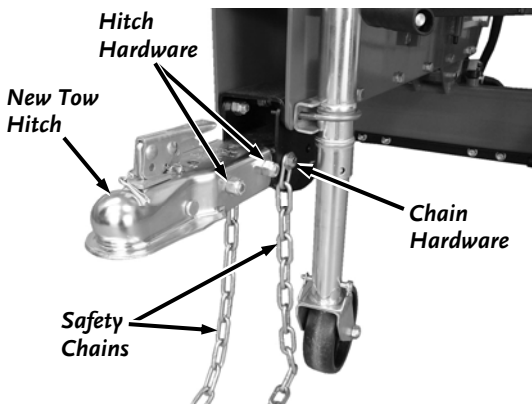

Figure 40
2. Attach the new Tow Hitch to the Frame with the two 1/2-13 x 4" Bolts and Locknuts using two 3/4" Wrenches (**Figure 40**).